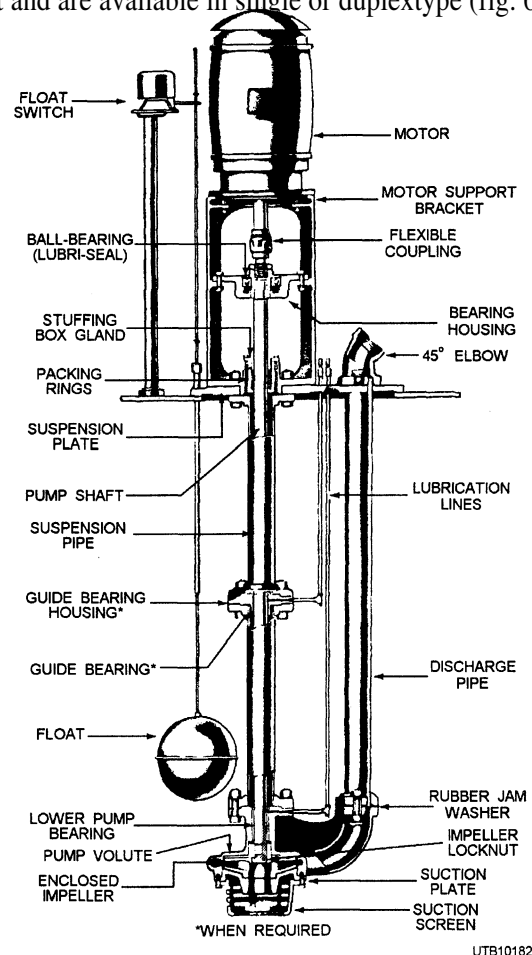

Figure 6-17.—Vertical submerged-type of centrifugal pump for sewage.
- To provide sump drainage. Sump pumps are not classified as sewage pumps; however, they can be used as such. They may be vertical or horizontal centrifugal. The vertical type sump pump usually has the impeller submerged and the motor mounted above the pit. Units are equipped with an automatic switch operated by the float and are available in single or duplex type (fig. 6-17).